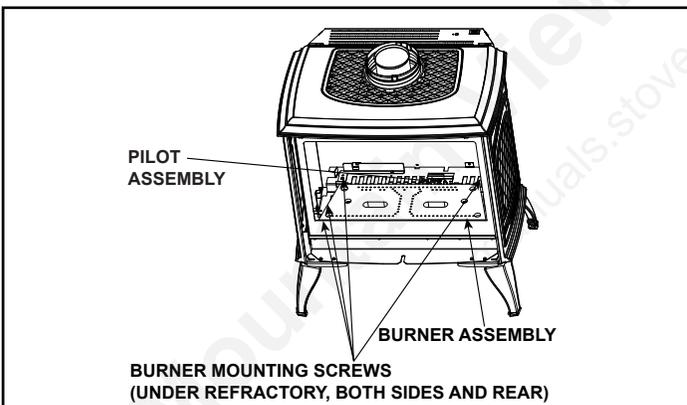

Figure 6.12 Remove Burner
- The pilot needs to be lifted slightly to accommodate the burner removal. Using 1/4 in. bit, remove the two screws that attach the pilot to the burner. Remove the pilot shield and lift the pilot slightly until it clears the pilot mounting tabs. See Figure 6.12.
- Using a 1/4 in. bit, remove the two burner mounting screws from each side of the burner. Remove the two screws that hold the burner to the rear firebox wall. See Figure 6.12. Remove burner from appliance.